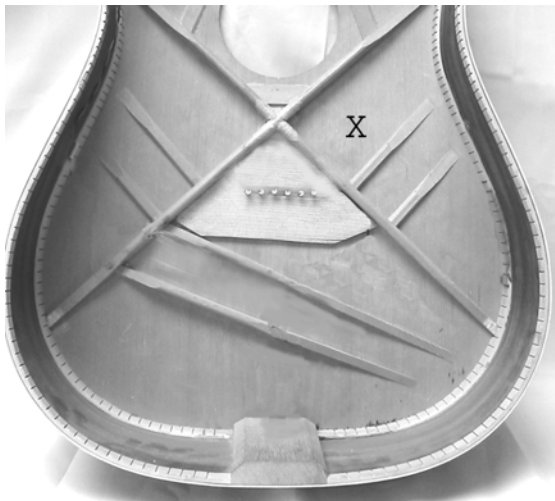

Fig 1
- 1) As shown in figures 1 and 2, the exact placement of the pickup can vary.
Tests have shown that in general, the best sound on most acoustics will have the pickup installed outboard of the X braces. Placement can and will vary from one instrument to the other. Some will sound best with the pickup on the bass side (as shown in fig 1)